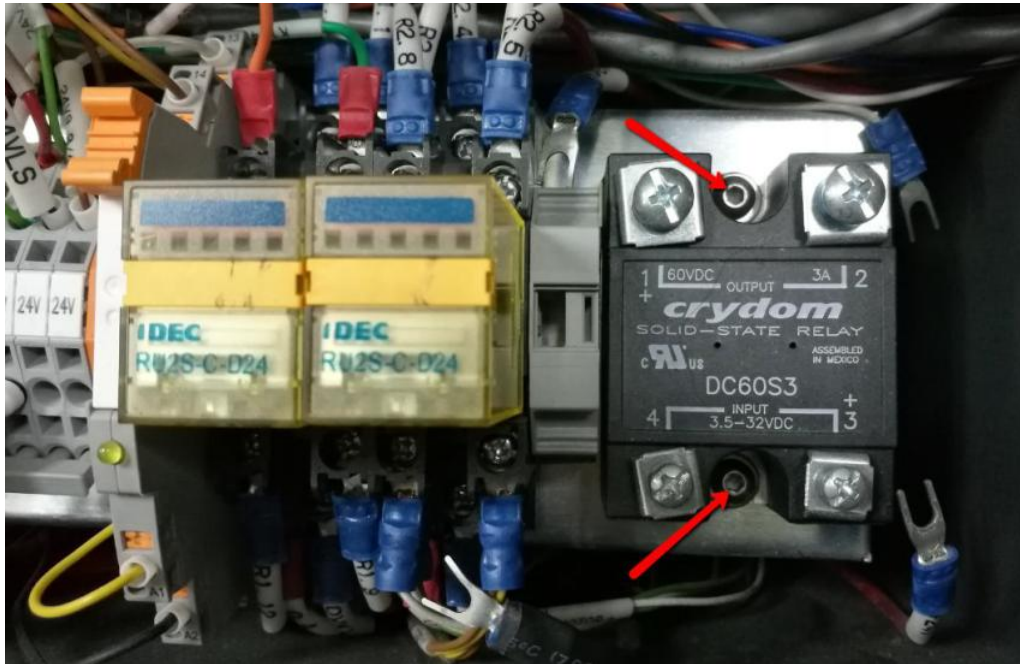

Figure 13 Crydom SSR Relay Removal
- Remove 2 x Screws & Defective Crydom SSR relay as shown in Figure 13